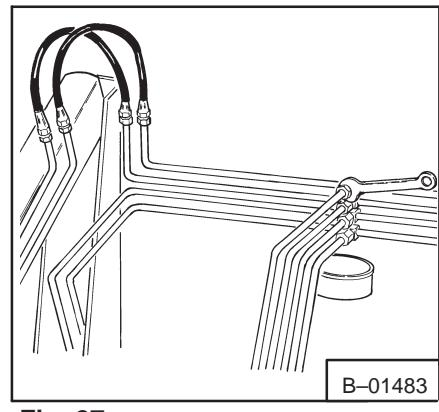

Fig. 27 Checking Tilt Cylinder Seals
2. Remove the top tube on the "T" at the rear of the machine. Plug the tube with a 1/2" NF SAE male plug (Fig. 27).